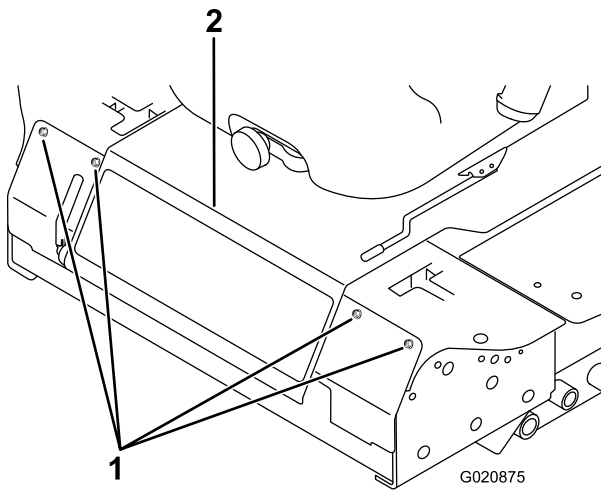

Figure 87
3. Remove the bolts securing the front panel and remove the panel (Figure 87).